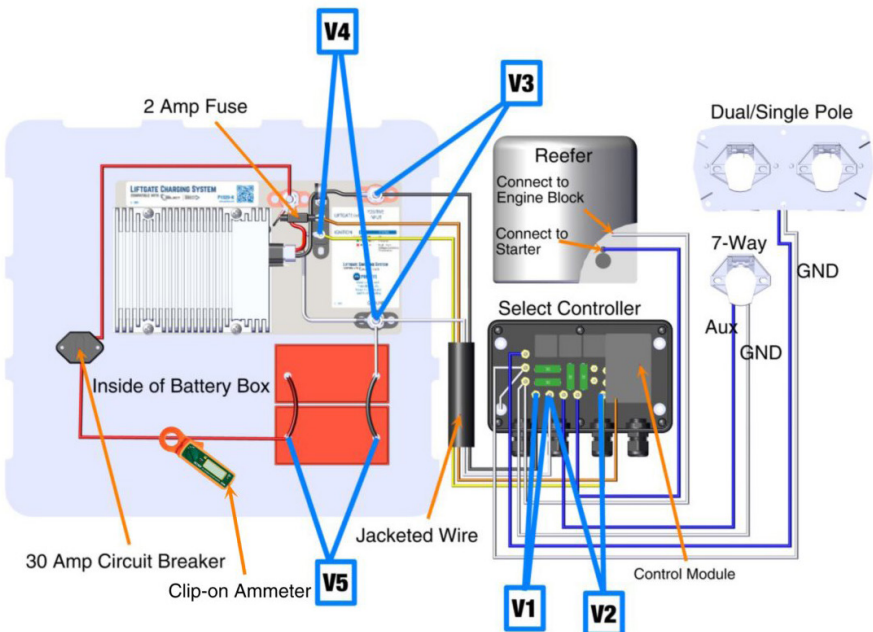

Figure 22
**Step 1:** Look at the Source LEDs on the Select Controller and ensure that one of them is Solid Green. If no, refer to the Stinger, Reefer, or Aux Diagnostics sections. If yes, measure the voltage at the DC/DC Converter Input (+) stud and Ground (-) Liftgate Battery (Fused) stud (see V1 on Figure 22). Voltage should be over 10.0 volts. If yes, go to step 2. If no, check 30 amp maxi fuses for the ground, stinger, reefer, and aux. If fuses are good, and voltage is still below 10.0 volts, replace the Control Module. If, after replacing the Control Module, the system still does not function properly, replace the Select Controller.
**Step 2:** With a voltmeter, measure the voltage at the ignition input (see V2 on Figure 22). Should be over 10.0 volts. If yes, skip to step 3. If no, replace Control Module.
**Step 3:** With a voltmeter, measure the input and ignition voltages at the P1020-K Liftgate Charging System Plate Assembly (see V3 and V4 on Figure 22). Both should be over 10.0 volts. If no, repair or replace the wires between the Select Controller and the P1020-K Liftgate Charging System Plate Assembly. If both voltages are over 10.0 volts, move to reference 13.
**Step 2:** Measure the voltage at the liftgate batteries (See V5 on Figure 22). If higher than 14.0 volts, the charging system is functioning properly. If no, continue to step 3.
Step 3: Using a clip-on ammeter, measure current flow (see clip-on ammeter on Figure 22). If above 10.0 amps, the system is working. Allow time for the liftgate batteries to charge. If below 10.0 amps and the voltage is below 14.0 volts, check the wiring and connections to the DC/DC converter. If problem continues, replace the DC/DC converter.